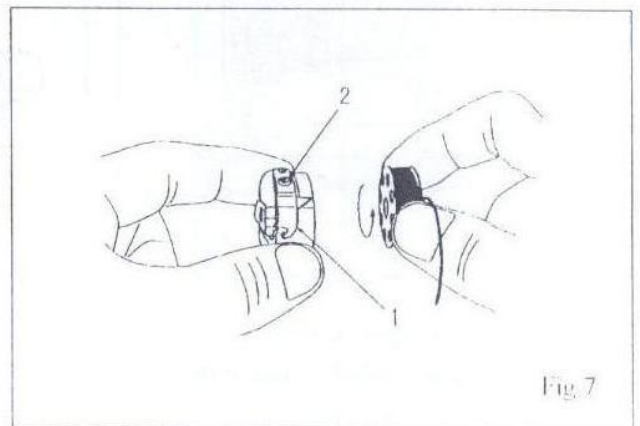

Fig. 7
3) Hold the bobbin between the thumb and forefinger of your right hand and pull out a length of about 5 cm of thread. Holding the bobbin case in your left hand turn the open side up and place the threaded bobbin into it. (Fig. 7)
4) With the right hand guide the thread into the slot in the edge of the bobbin case. Then pull the thread to the left, under tension spring 1 (Fig.7) and into the delivery eye. In order to keep the bobbin from dropping out of the case when it is turned with the open side down, always keep the hinged latch at the front of the bobbin
2) Tension of the lower (bobbin) thread: (Fig.7)
The lower (bobbin) thread tension is controlled by the larger screw (2 Fig.7) near the end of the spring at the outside of the bobbin case. Turning this screw to clockwise to increase the thread tension, while turning it to counter-clockwise to decrease it.